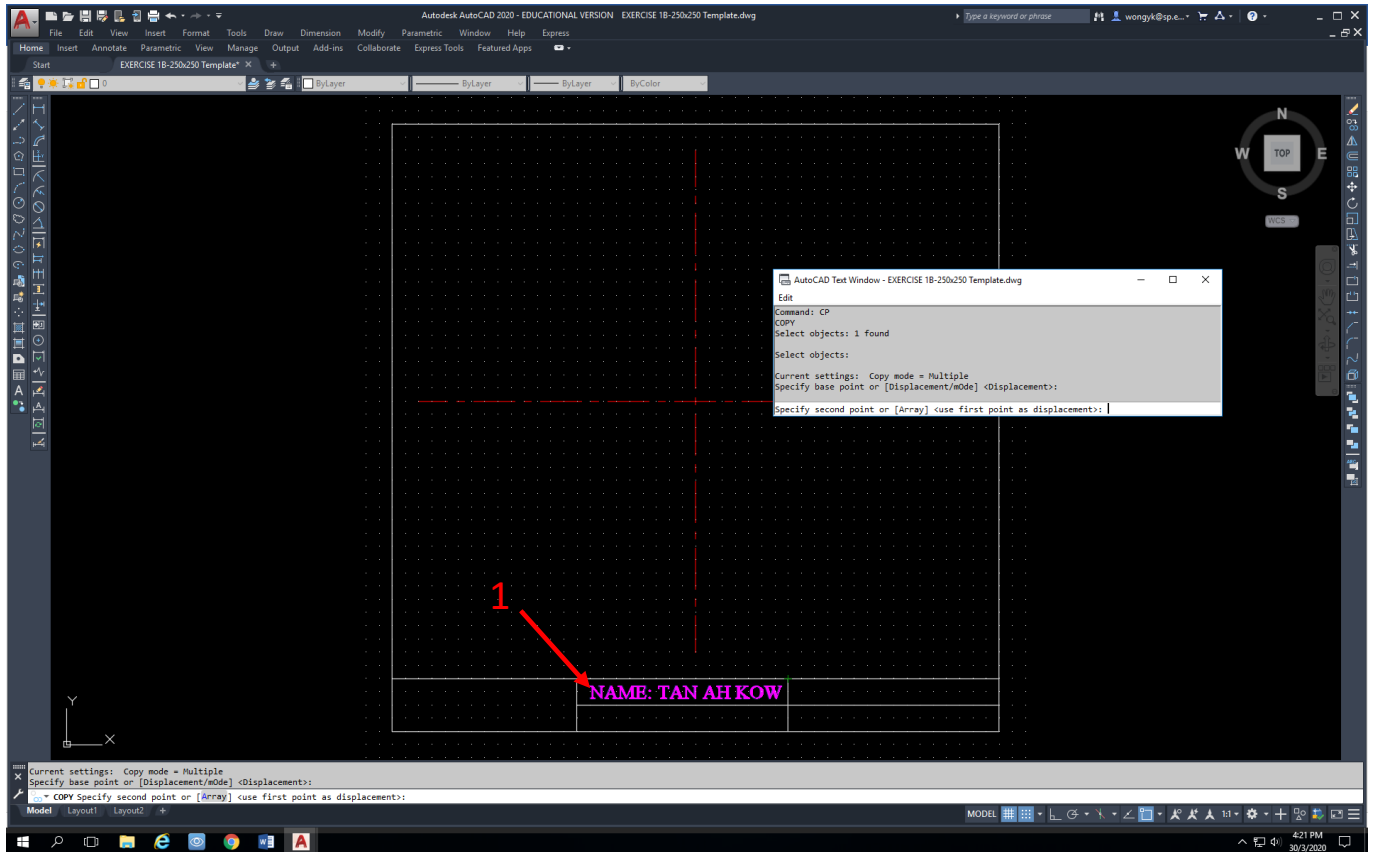

Fig 13
- iii. Specify Base point= **Click at the ML point** (That is starting point of Text) **(1) in Fig 13**